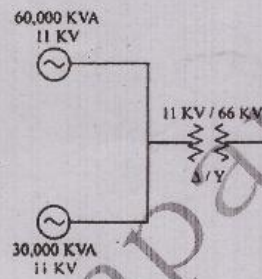

Fig. 4
13. (a) Two generators are connected in parallel to the low voltage side of a 3 phase delta star transformer as shown in figure 4. Generator 1 is rated 60,000 kVA, 11 kV. Generator 2 is rated 30,000 kVA, 11 kV. Each generator has a sub-transient reactance of $X_d'' = 25\%$. The transformer is rated 90,000 kVA at 11 kV- Δ /66 kV-Y with a reactance of 10%. Before a fault occurred, the voltage on the high tension side of the transformer is 63 kV. The transformer is unloaded and there is no circulating current between the generators. Find the sub-transient current in each generator when a three phase fault occurs on the ht side of the transformer.